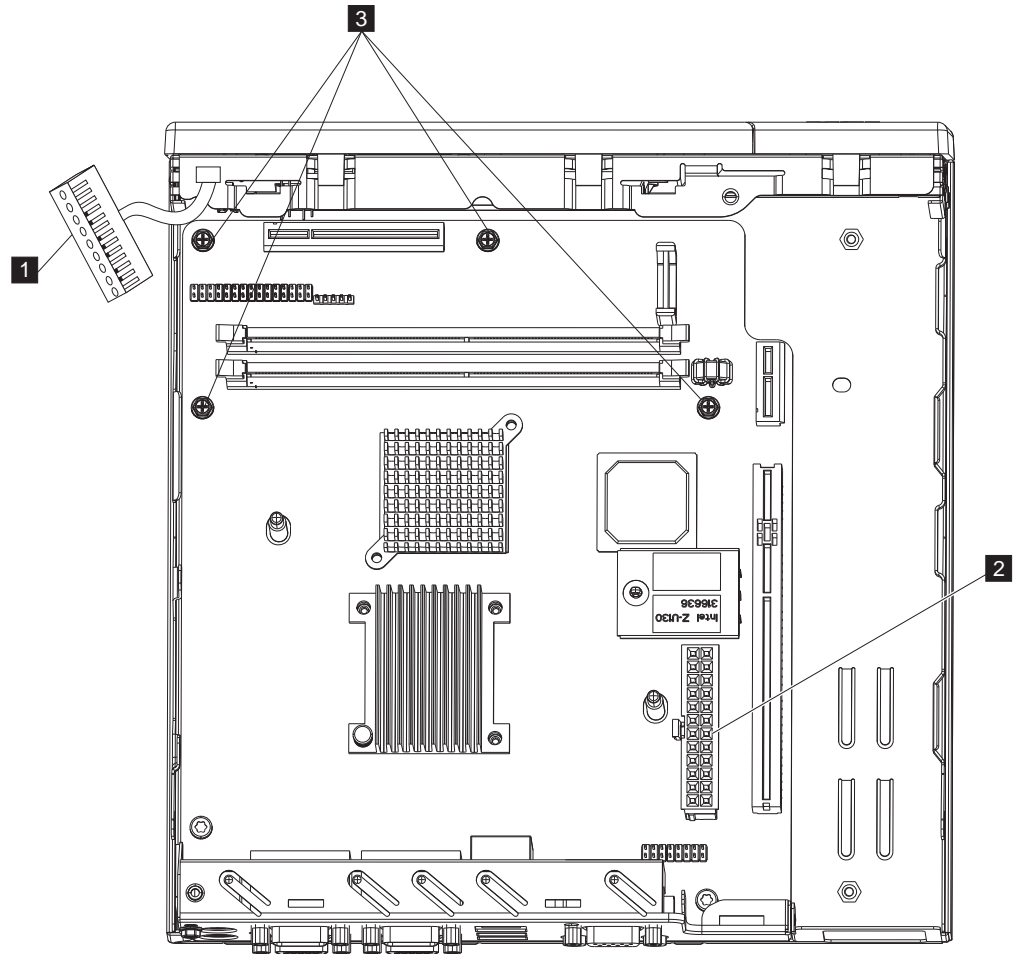

Figure 35. Removing the system board
7. Remove the four system-board retaining screws **3** on the system board. See Figure 35.